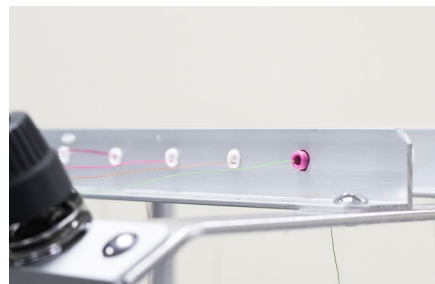

Figure 20
1. Thread each spool through the eyelets on the upper thread rack until they reach the top tension knobs. **See Figure 20.**